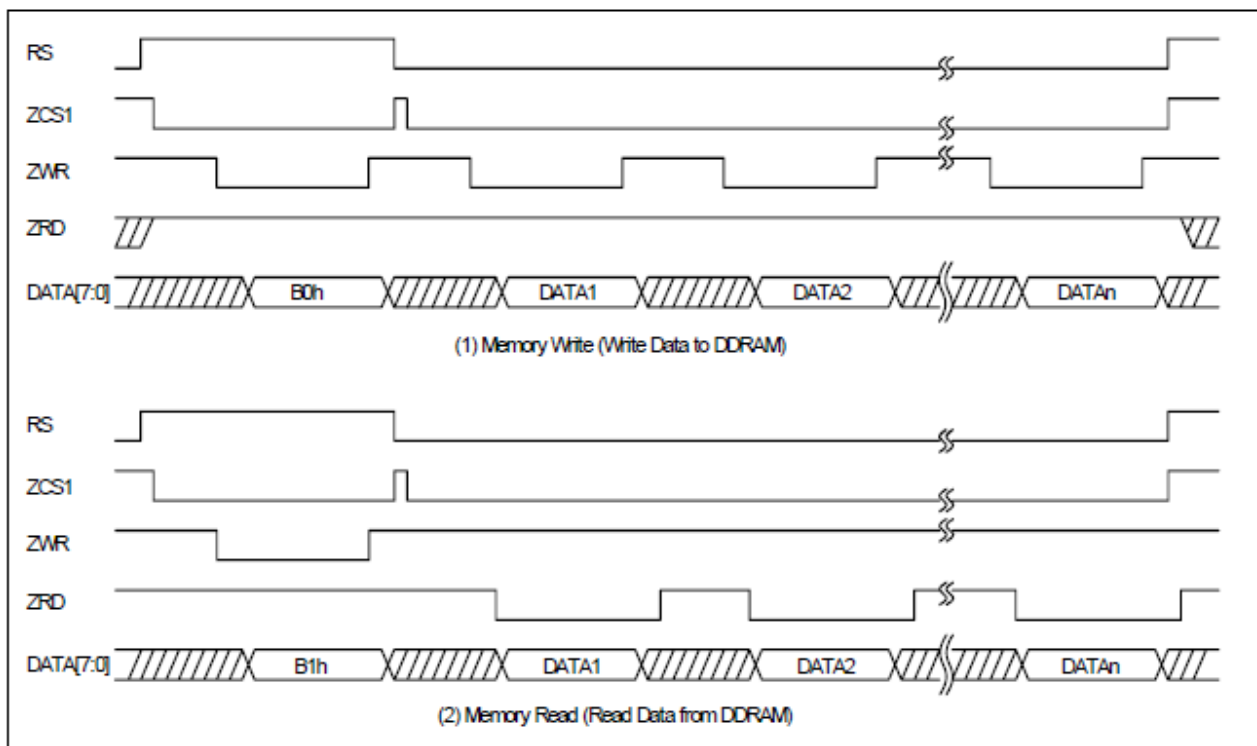

Figure 6-6 : Memory Write/Read Cycle
When users want to write data to memory – DDRAM or CGRAM, then a special Command cycle has to execute first, the register have to assign to "B0h" on Data Bus. Then the following Data Write cycle will write data into memory. If users want to read data from memory, then the register has to assign to "B1h" on Data Bus in Command Write cycle. Please see the following Figure 6-6 (1) and (2).